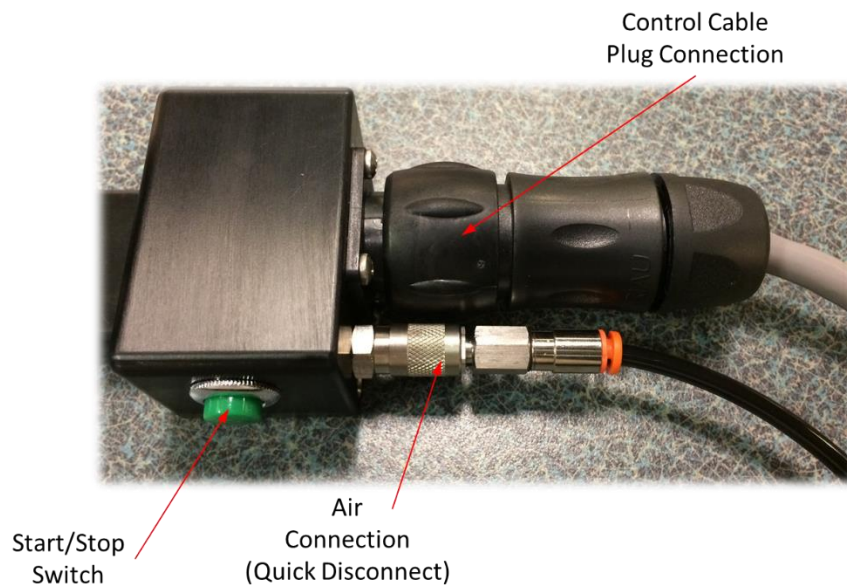

Figure 2.8 Sealing head activation switch
- The blue LED flashes on and off when the run cycle is initiated, either with the green button on the sealing head handle or with the *start* button on the generator/controller screen. See Figure 2.8.